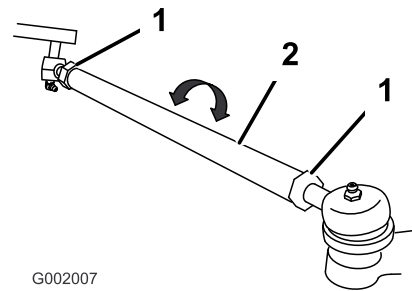

Figure 48
- If the measurement does not fall within the specified range, loosen the jam nuts at both ends of the tie rods (Figure 48).